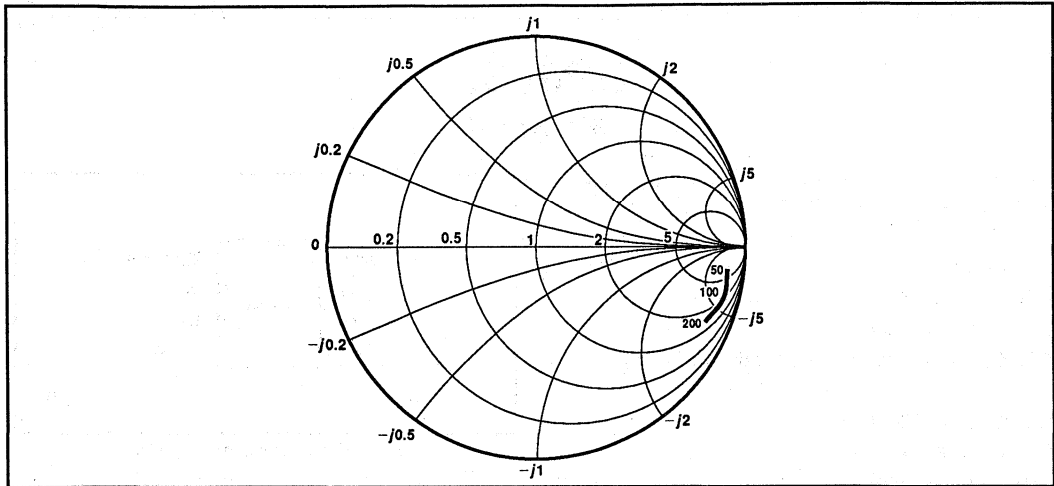

Fig. 4 Typical input impedance. Test conditions: supply voltage = 5.0V, ambient temperature = 25°C, frequencies in MHz, Impedances normalised to 50Ω
5. Input impedance varies as a function of frequency; see Fig. 4.